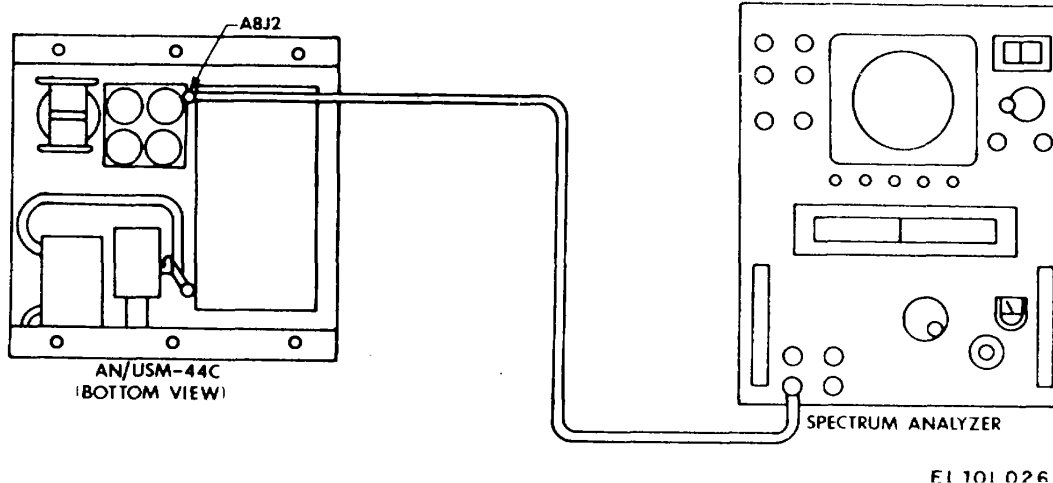

Figure 7-19. Rf divider A8, alignment test setup
- Set up the equipment as shown in figure 7-19.